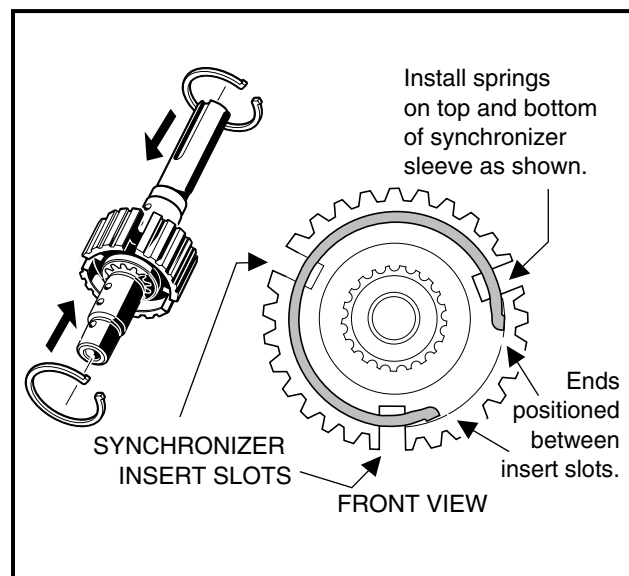

Figure 5-27 Synchronizer Springs
- 1.2. Install the synchronizer springs (46) (**Figure 5-11, Page 5-7**) in the sleeve (**Figure 5-27, Page 5-15**). See following **NOTE**.
NOTE: Make sure the ends of the springs are positioned between the synchronizer insert slots (**Figure 5-27, Page 5-15**).
- 2.2. Install the synchronizer springs (46) (**Figure 5-12, Page 5-8**) in the sleeve (**Figure 5-27, Page 5-15**). **See following NOTE.**
- NOTE:** *Make sure the ends of the springs are positioned between the synchronizer insert slots (**Figure 5-27, Page 5-15**).*